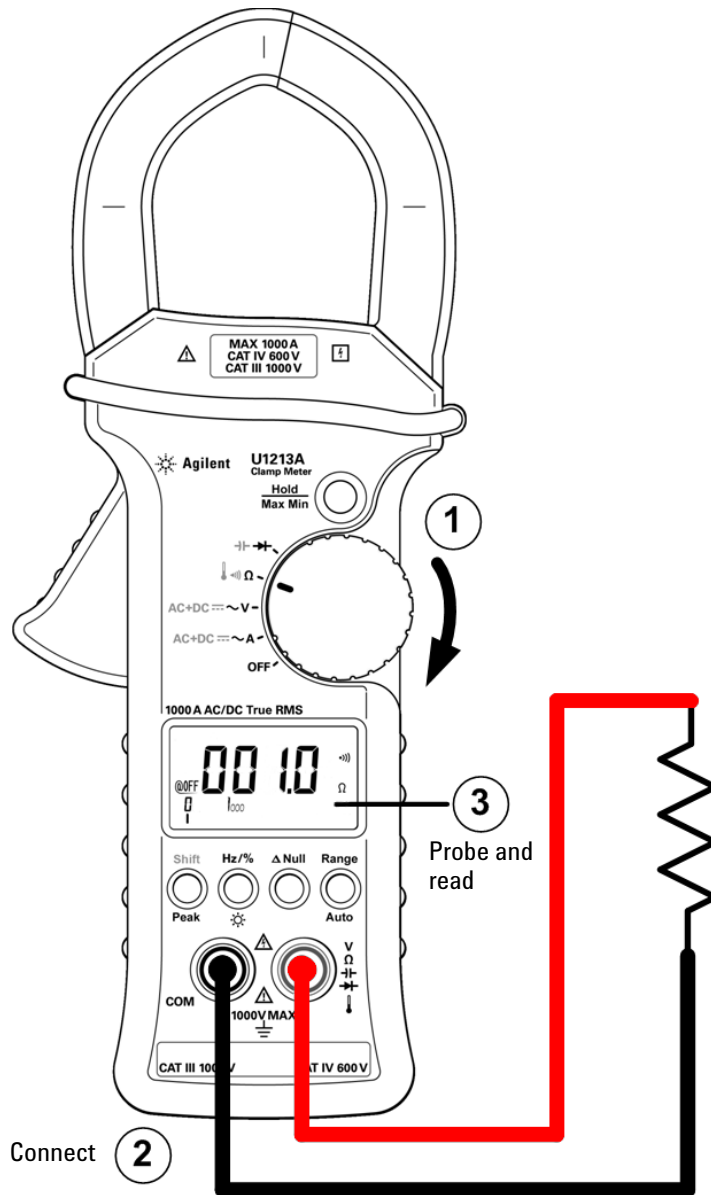

Figure 2-4 Continuity test
- 4 To perform continuity test, press **Shift** once (see Figure 2-4 on page 24). The buzzer will sound when the resistance is below 10.0  $\Omega$ .